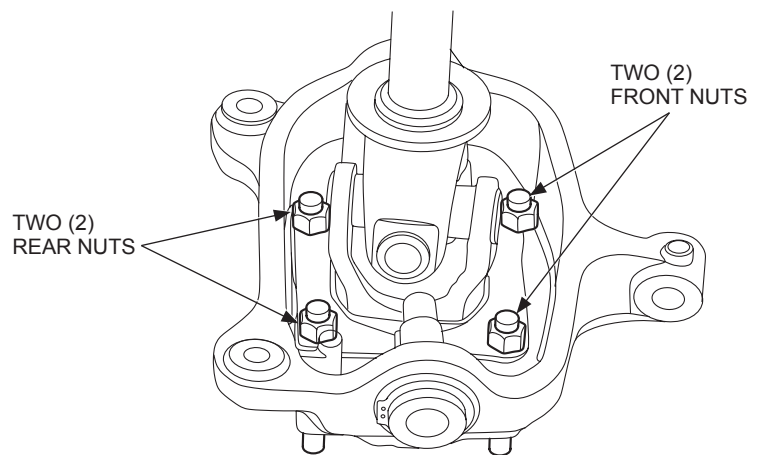

FIGURE 2
1. Remove two (2) rear nuts on the inside of the front knuckle to install one half of the shield. (Refer to Figure 2).